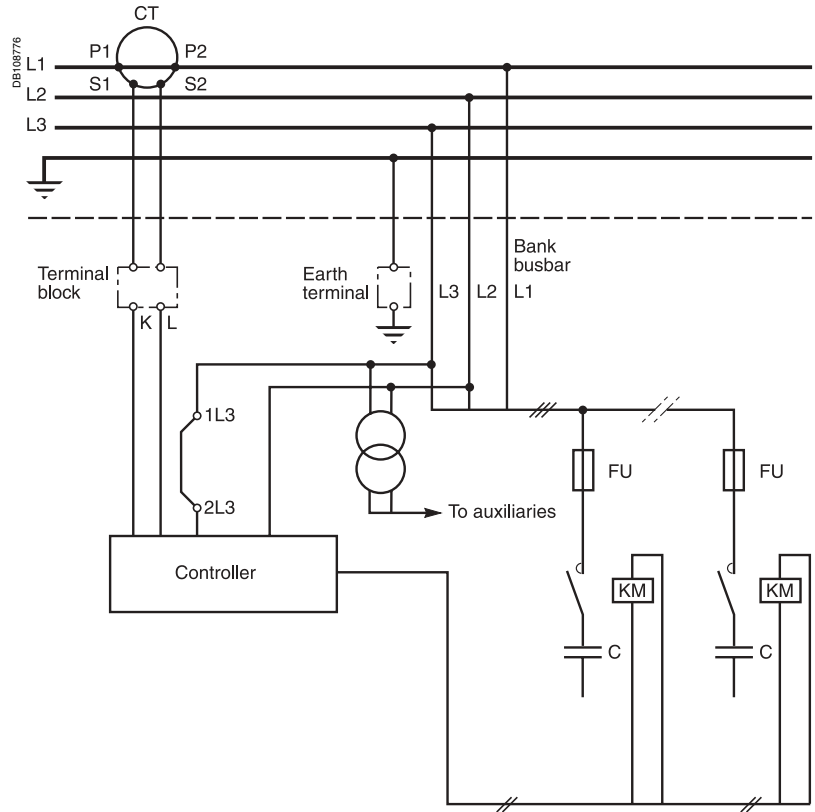

Fig. 10: schematic wiring diagram, standard type cubicles.
Electrical connection is based on the wiring diagrams (page 6, fig. 10 and 11). For power connection, a protective device must be provided in some cases.
- connect the information from the CT, S1 on terminal K and S2 on terminal L of the terminal block (fig. 10, 11 and 12).
- open this circuit to insert a normally closed contact from the installation (see page 6 fig. 10 and 11).